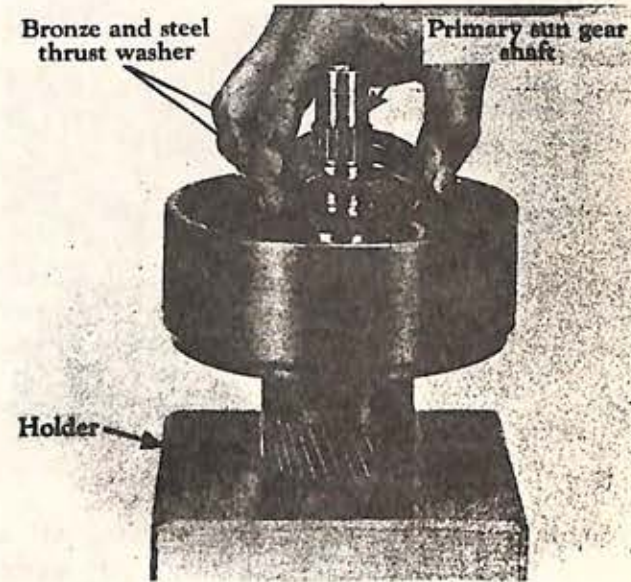
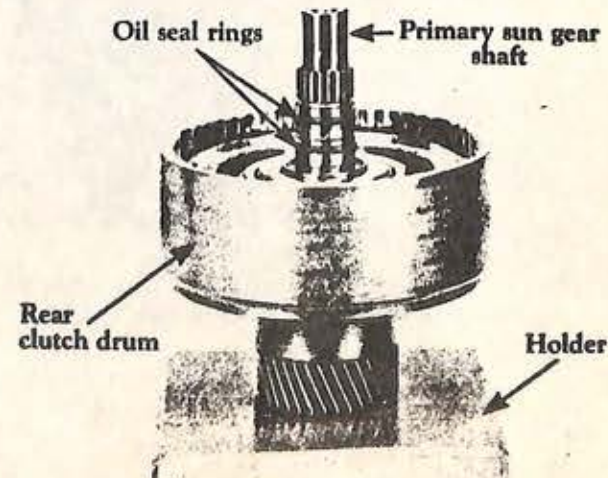
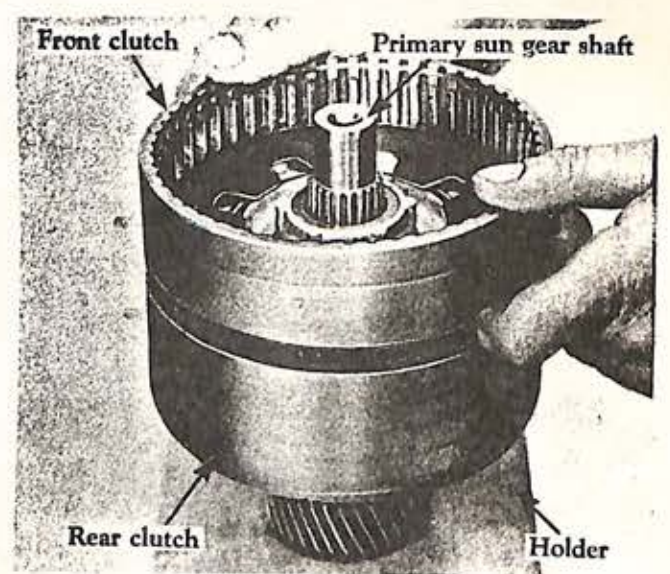

Fig. 59
Fig. 60
Fig. 88
4. Remove the bronze and steel thrust washer from the primary sun gear shaft (Fig. 59).
5. Remove the front clutch oil seal rings from the primary sun gear shaft (Fig. 60). **CAUTION:** Do not break the oil seal rings.
Install the steel and bronze thrust washer on the primary sun gear shaft in the order shown (Fig. 59). Install the front clutch (two) oil seal rings in the grooves of the primary sun gear shaft (Fig. 60). Check the oil seal rings for free movement in the grooves and in their respective bores.
Install the front clutch oil seal rings on the primary sun gear shaft (Fig. 60). Install the front clutch housing on the primary sun gear shaft by rotating the clutch units to mesh the rear clutch plates with the serrations on the front clutch cylinder (Fig. 88). **CAUTION:** Do not break the oil seal rings.